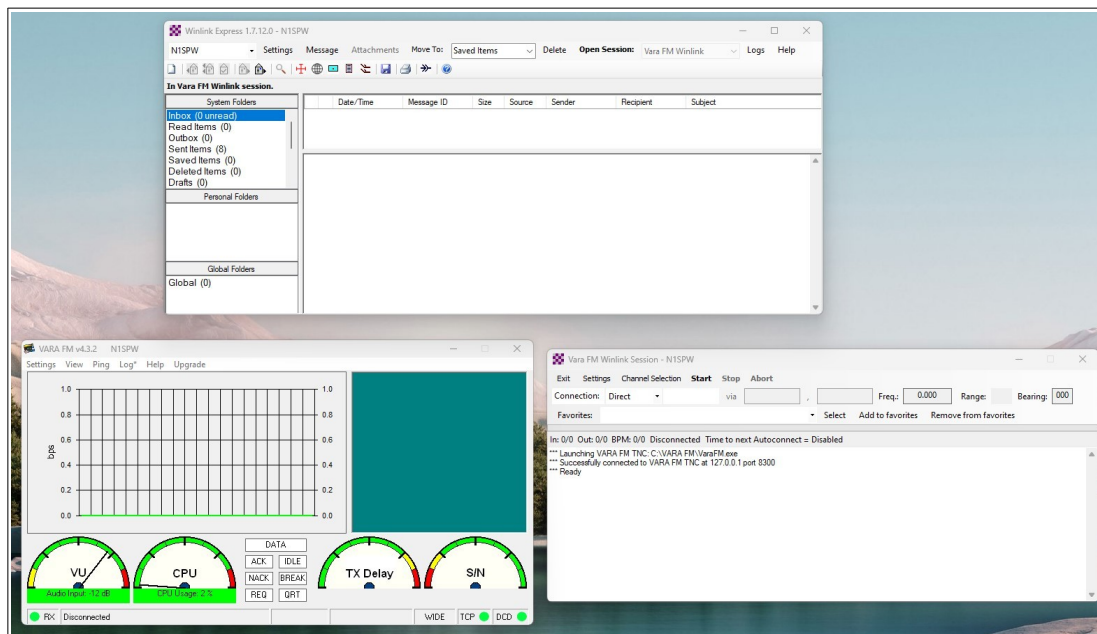

Figure 12: Winlink/VARA FM Windows
You should now have three (3) windows open. Winlink, Winlink Vara FM Session, and VARA FM (Figure 12).